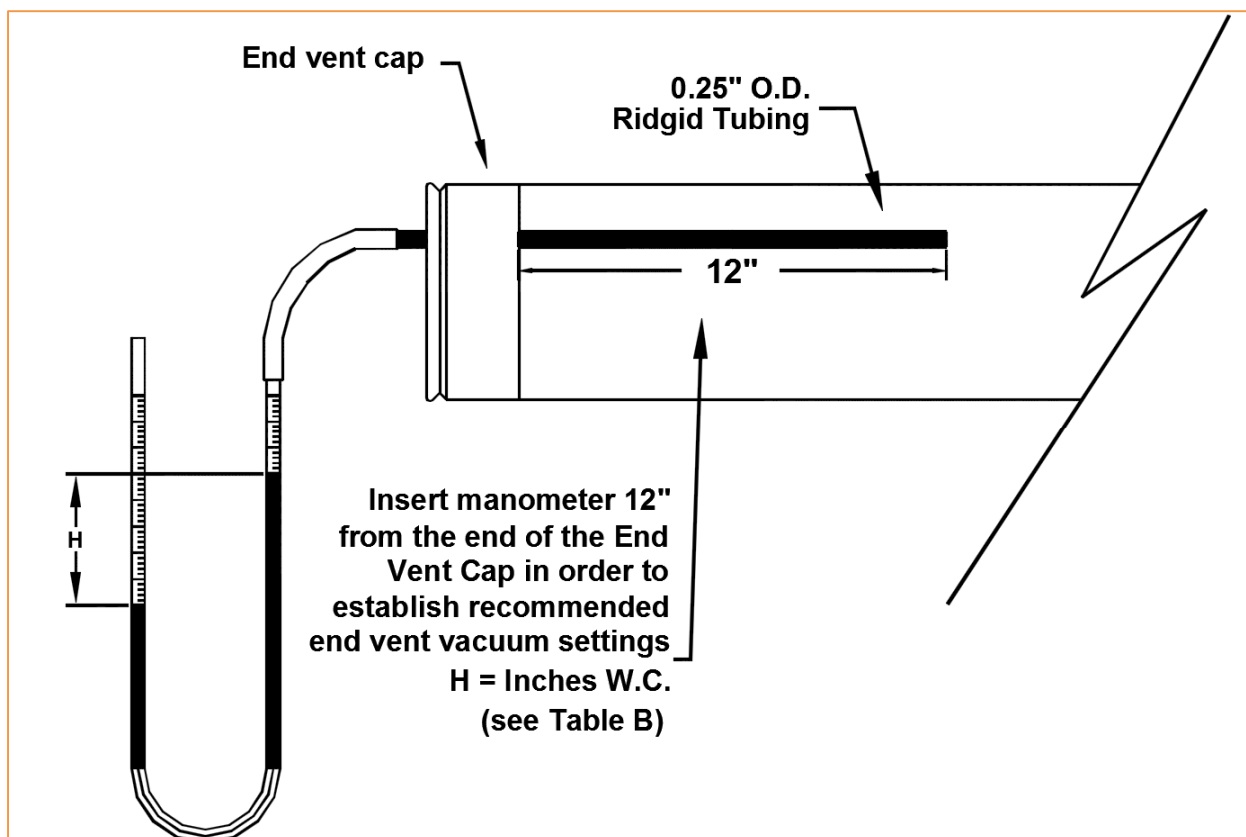

Figure 48: Manometer Placement Diagram
3. With a manometer check the vacuum at the End Vent Cap of the longest Branch. (Refer to Figure 48 for manometer positioning details.)